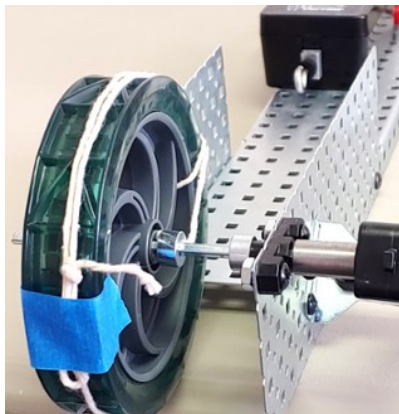

Figure 6. Cable End Secured
- d. Refer to Figure 6. Secure the end of the cable onto the wheel to avoid interference with the wheel movement:
**Note:** Blue tape is shown in Figure 6 to improve visibility for the image. Any tape can be used to secure the end of the cable.